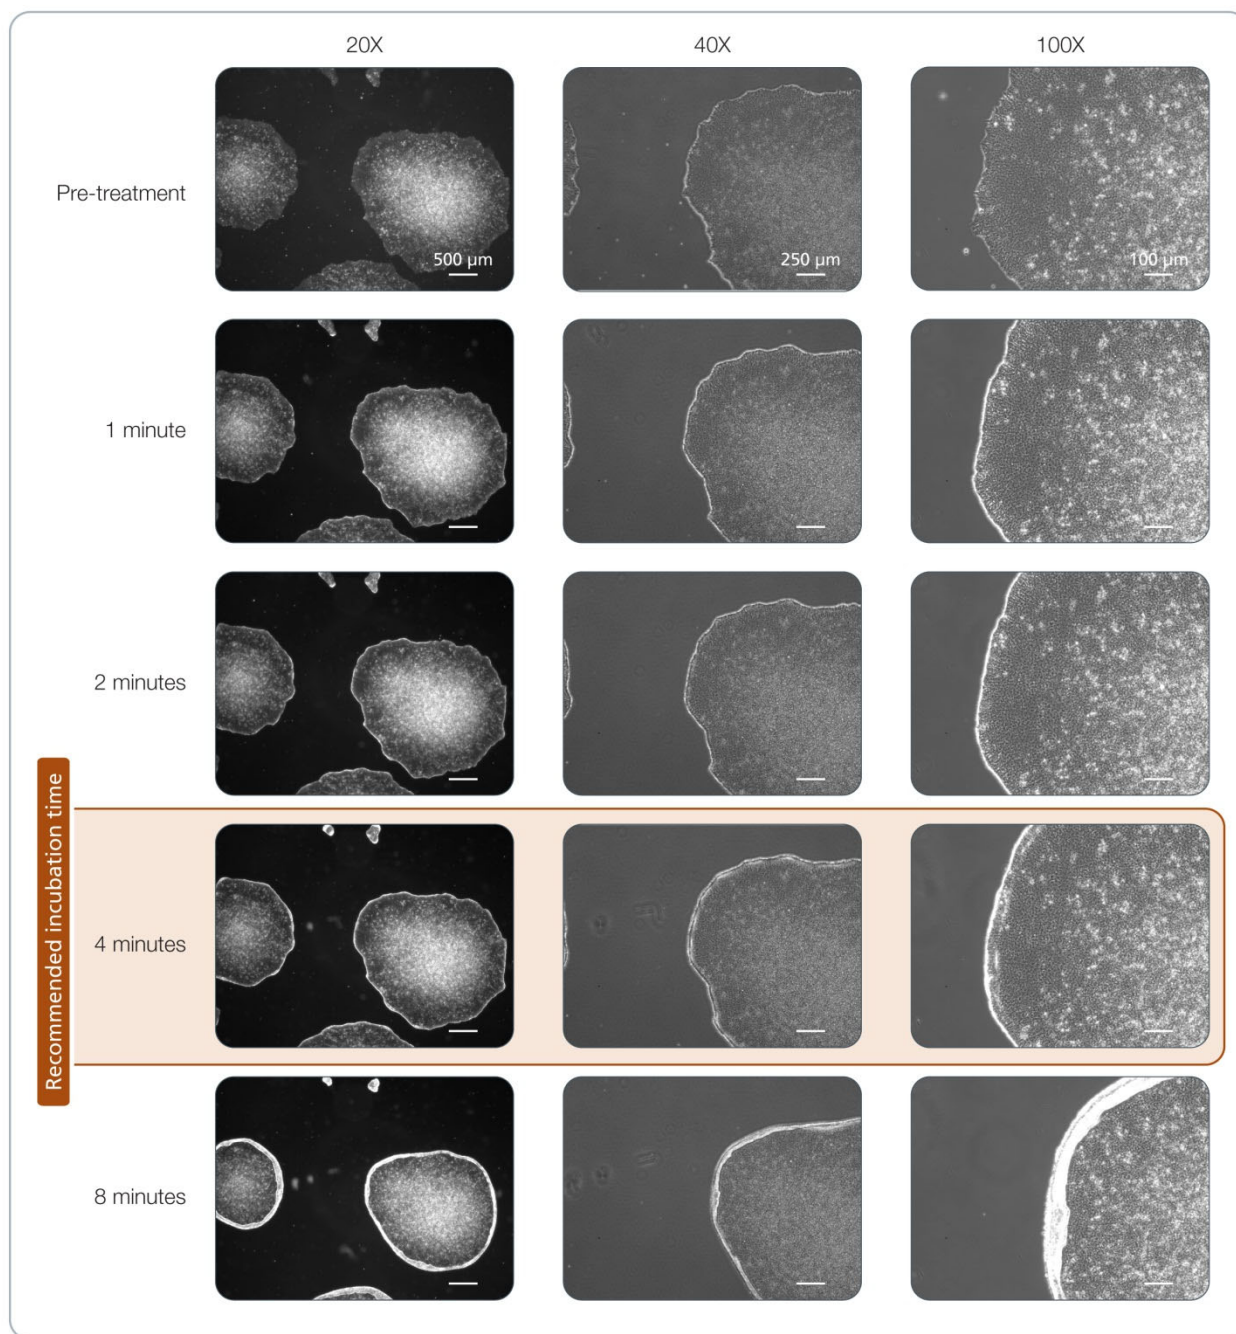

Figure 12. Effect of Dispase on Human iPS Cells Cultured on Corning® Matrigel® in TeSR™2
7. Incubate at 37°C for 3 - 4 minutes, until the colony edges begin to loosen and lift from the dish. Refer to Figure 12 for additional information.